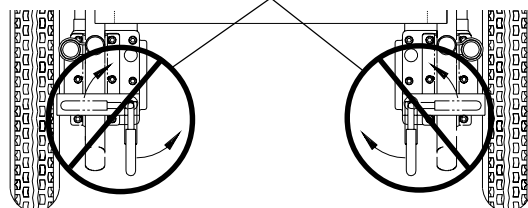

FIGURE 2 - ENGAGING/DISENGAGING CLUTCHES
The tabs on the battery box connectors MUST be assembled as shown in FIGURE 2. Otherwise the connectors will not engage completely and clutch handles could disengage connectors.
2. Locate the clutch handles on motors (FIGURE 2).
If clutch handles are forced to engage in the wrong direction (FIGURE 2), the motors will be damaged and will need to be replaced.
3. Perform one of the following (FIGURE 2):